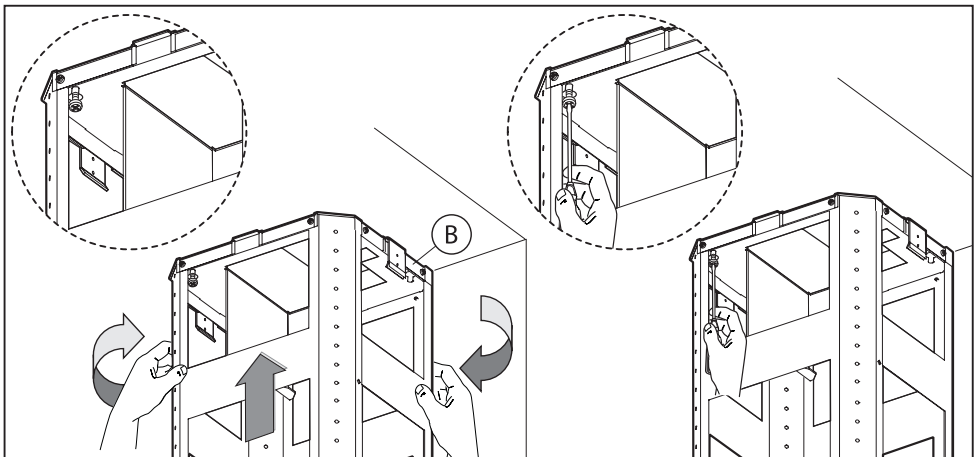

Fig.4
-Take the upper part of the structure **B** (Fig.4) and insert the 3 slots onto the 3 screws that are not completely tightened. Rotate slightly to fit (Fig.4). Drive in the fourth screw **X** and tighten the remaining 3 to allow definitive blocking of the upper part of structure **B**.